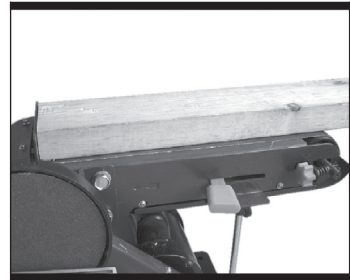

Fig 18
5. Surface sanding on the sanding belt (See Fig 18)